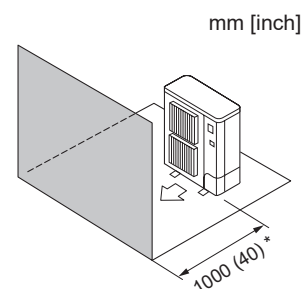

Fig. 2-9
- (4) Obstacles at front only (Fig. 2-9)